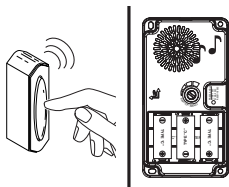

Figure 3
3. **Test range.** Temporarily position chime and push button where you want them mounted. Press push button to verify chime and push button work properly (see Figure 3). If chime does not sound, see *Troubleshooting*.